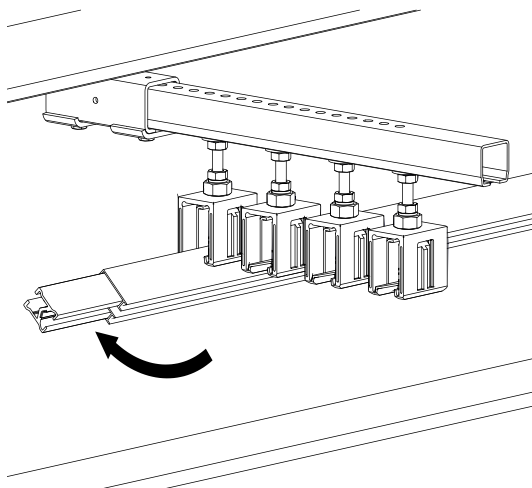
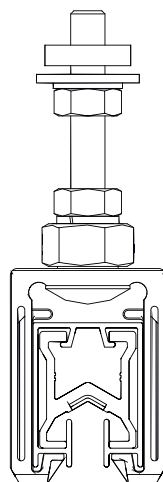

Fig. 60: Clip the rail into the hanger clamp
Fig. 61: The rail is clipped into the hanger clamp
- Insert the first conductor rail at approx. 45° into the hanger clamp and clip it in (see Fig. 60). Ensure that the conductor rails engage correctly and the hanger clamp covers the insulation above and below (see Fig. 61).